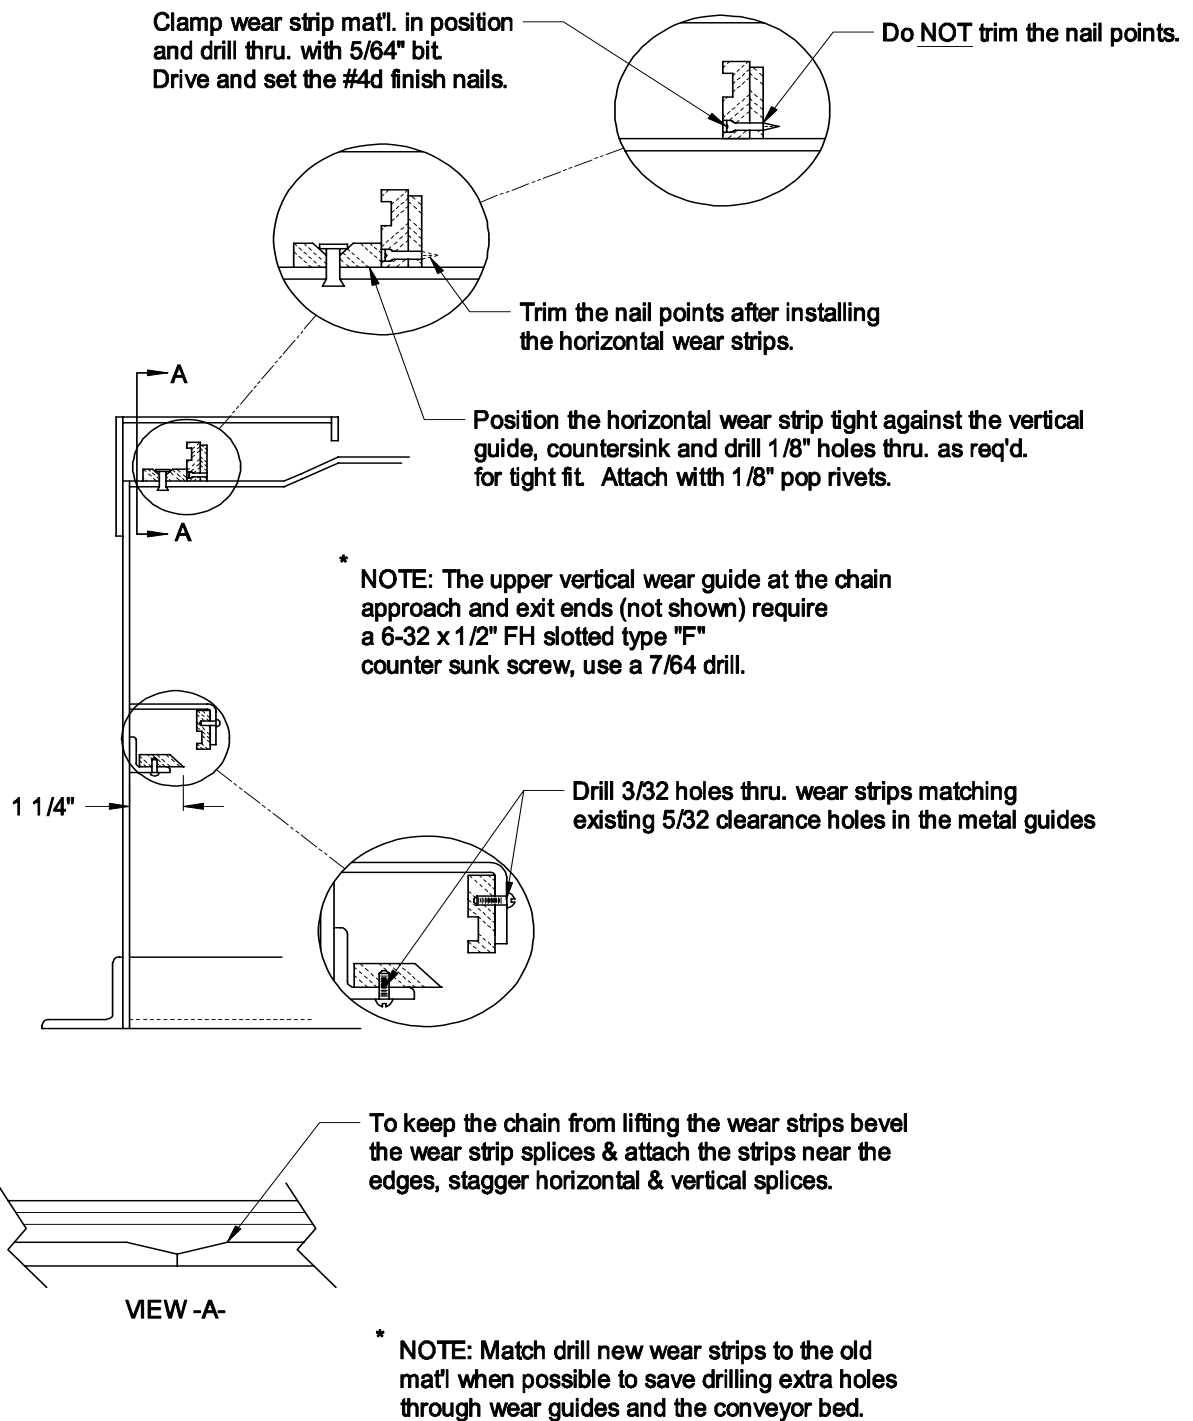

Figure 14
1. If the wear strips are damaged or excessively worn, they may be replaced as follows: (See figure 14)
- f. The upper vertical guide sits on the bed and is held in place with 4d finish nails (provided) acting as pins. The notch is positioned as shown (See Figure 14). The head of the nails should be set slightly recessed, and the excess pin material should be snipped off if it extends beyond the metal backing after the horizontal piece is installed.